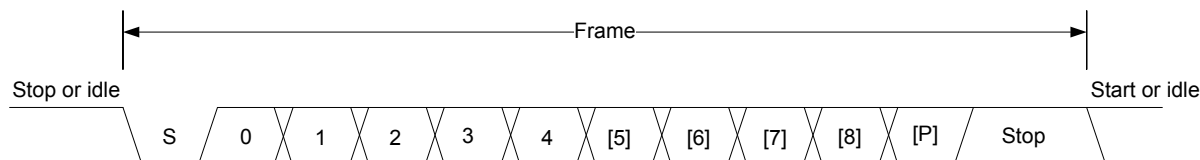

Figure 21.2. USART Asynchronous Frame Format
The frame format used in asynchronous mode consists of a set of data bits in addition to bits for synchronization and optionally a parity bit for error checking. A frame starts with one start-bit (S), where the line is driven low for one bit-period. This signals the start of a frame, and is used for synchronization. Following the start bit are 4 to 16 data bits and an optional parity bit. Finally, a number of stop-bits, where the line is driven high, end the frame. An example frame is shown in Figure 21.2 USART Asynchronous Frame Format on page 560.